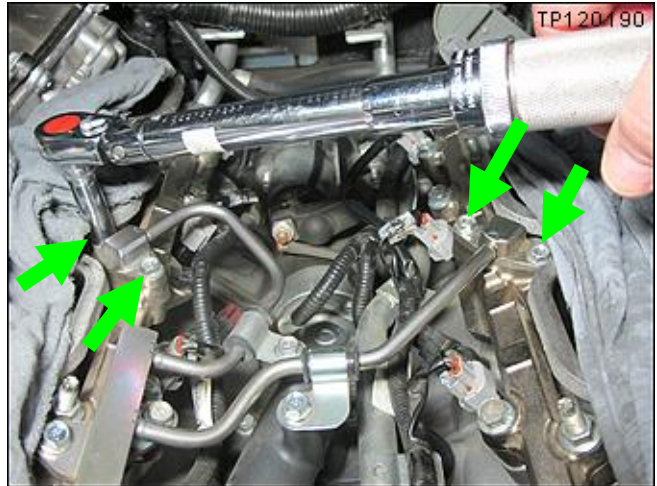

Figure 24m
29. Torque the bolts shown in Figure 24m: